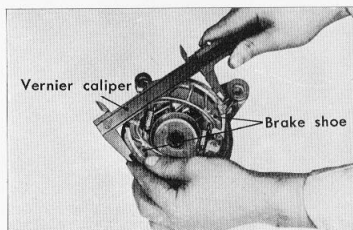

Figure 4-29. Measuring brake lining
- (3) The brake drum ID and the brake shoe OD is checked in the same manner as the front wheel and to the same standard.
- (4) Check the brake lining for wear. (Fig. 4-29)